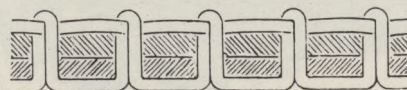

Fig. 11
b. If tension of needle (upper) thread is too tight, or tension of bobbin (lower) thread is too loose, then needle thread will lie flat on top of fabric and bobbin thread will be pulled up to upper surface, being visible there in form of small knots (Fig. 11).